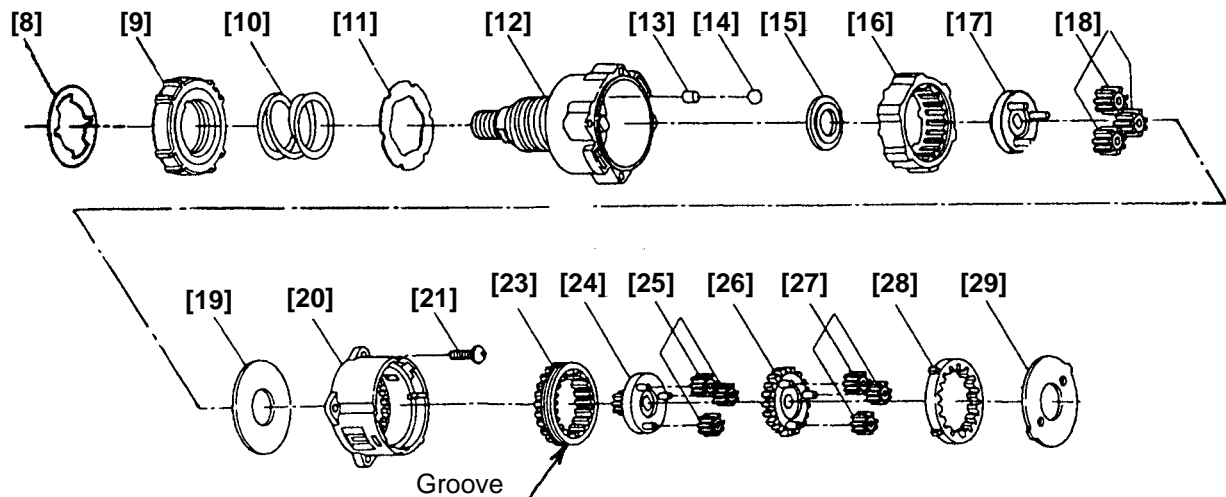

Fig. 9
(b) Install the parts series from the six Rollers [13] to Washer (B) [29] into the assembly reassembled in step (2). (See Fig. 9.)